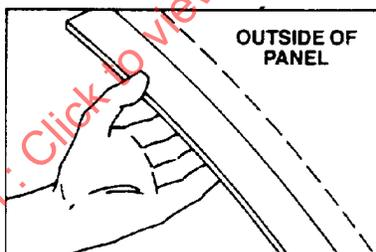

FIGURE B1—ASSEMBLE AND POSITION BONDING STRIPS
B.1.2 Partial Panel Replacement—Use a cut-off wheel to cut out the damaged parts of panels (according to OE manufacturer recommendations). Cut and fit a new partial panel to replace the damaged section. Use parts of the old section to make bonding strips to provide structural support for the replacement panels. The bonding strips should conform to the original contour and overlap the seam between new and old panels by 5 cm. If reinforcing fibers are showing, do not clean the fiber area with any liquids, soap, water or plastic cleaner. Wipe the surface, or use air to clean. Clean all areas to be bonded (see Step 3). Scuff sand the surfaces of all areas to be bonded using grade 80 discs. Clean off the repair area with a clean, dry rag and air hose then clean with a plastic cleaner. Apply a sheet moulding compound (SMC) panel adhesive compound to the backside of the panel and bonding strips to be bonded. Assemble and position the bonding strips, clamping where necessary. (Figure B1)